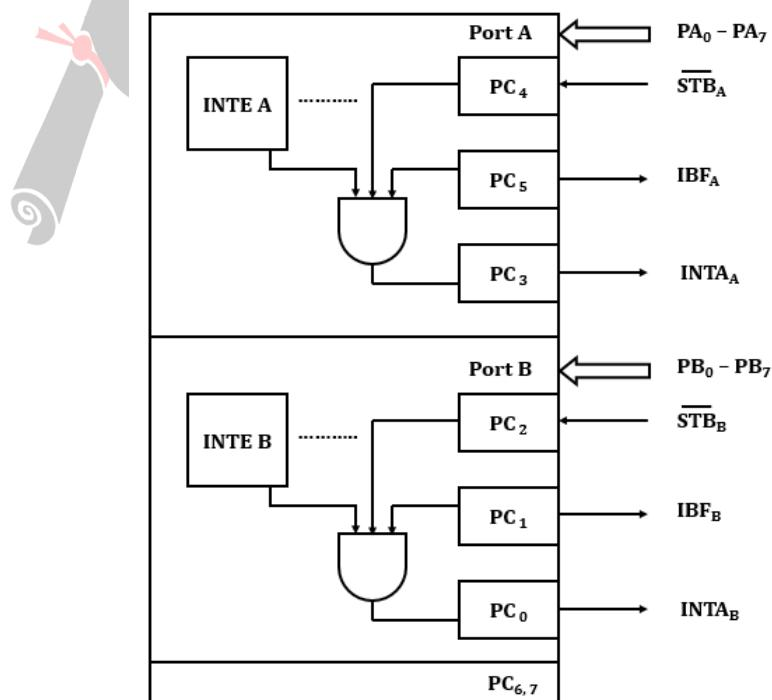

Figure 3.7:  $P_A$ ,  $P_B$  &  $P_c$  in Mode 1 Input Mode.
- Figure 3.7 shows  $P_A$ ,  $P_B$  &  $P_c$  in Mode 1 output mode.